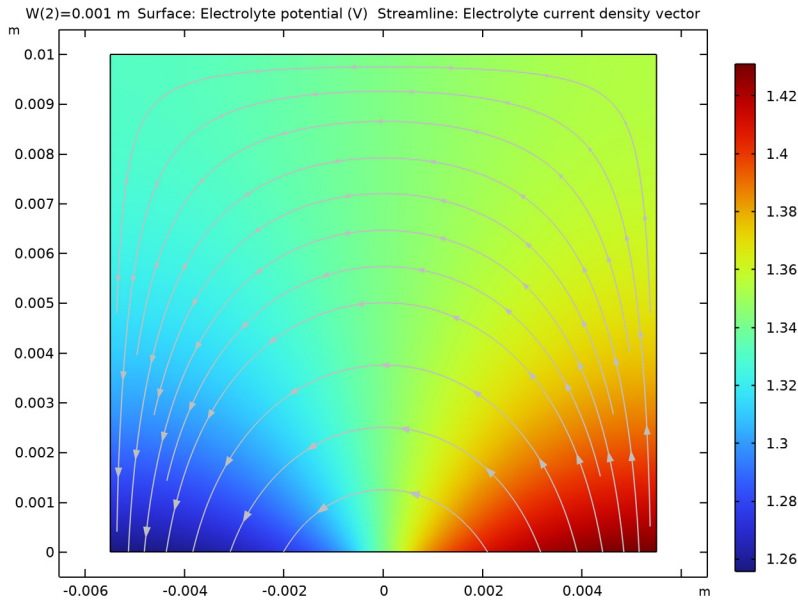

Figure 5: A surface plot of the electrolyte potential and surface arrow plot of electrolyte current density vector for 1 mm thick Al isolator.
Figure 5 shows a surface plot of the electrolyte potential and a surface arrow plot of the electrolyte current density vector for a magnesium (Mg)–mild steel (MS) galvanic couple with 1 mm thick Al isolator sandwiched between them. The surface arrow plot indicates the electrolyte current density, which in this case coincides with the ionic path taken by the Mg^{2+} ions that get dissolved in the electrolyte solution from the Mg surface.